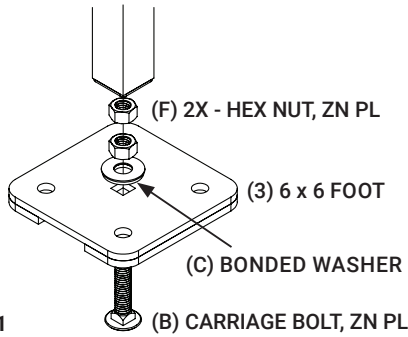

Fig. 1
1. Remove the foot plates (3) from the box and insert the carriage bolt (B) through the rubber side of foot as shown in Figure 1. Then secure the bonded washer (C) and two hex nuts (F) per foot.